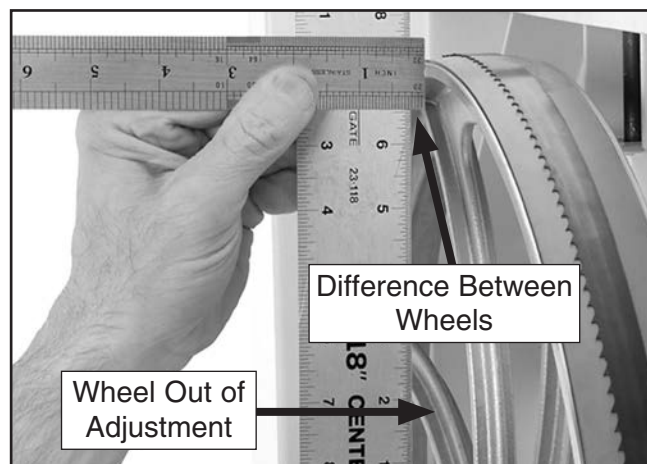

Figure 103 Determining distance needed to shim upper wheel.
3. With a straightedge touching both points of the wheel that does not need to be adjusted, measure the distance away from the wheel that is out of adjustment (see **Figure 103**).